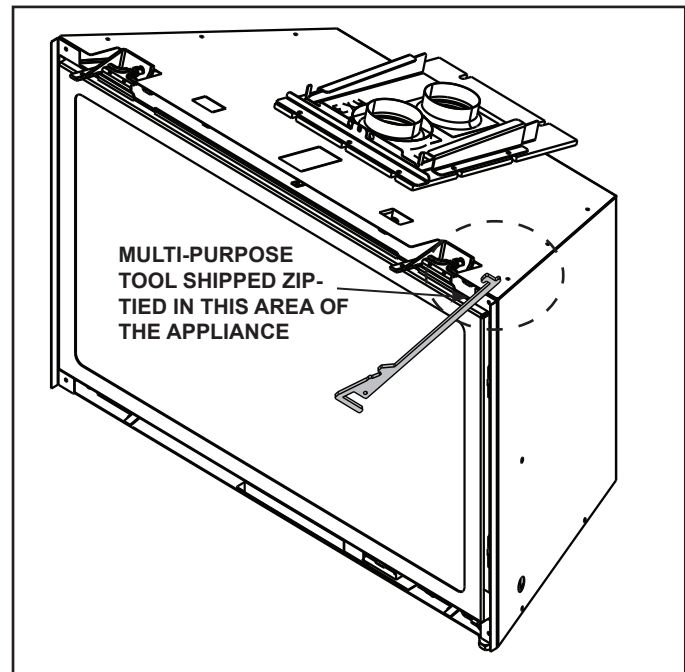

Figure 2.2 Multi-Purpose Tool shipping Location
- See Figure 2.2 for multi-purpose tool shipping location.